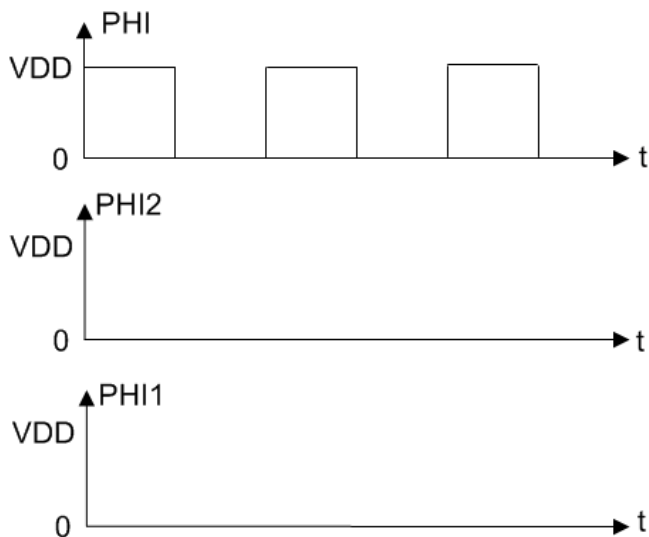

Fig. 3.1 Timing diagram for Fig. 1.1
- d) Complete the timing diagram shown in Fig. 3.1 below. Briefly explain your answer. *7 marks*